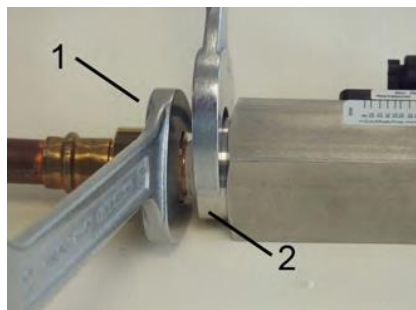

Fig. 13: Screw in the device
- 3.** ► Keep turning in the adapter union (Fig. 13/1) while holding the process connection of the device locked (Fig. 13/2) until the connection is tight.